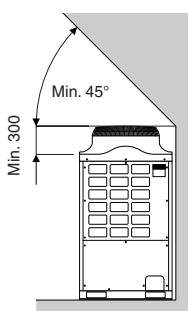

Fig. 2-4
(2) Overhead obstacles (Fig. 2-4)